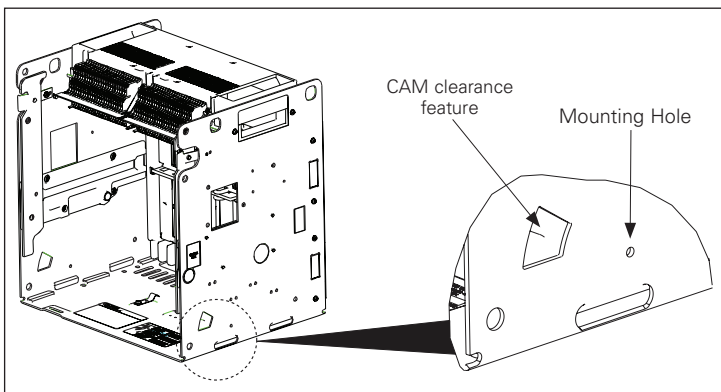

Figure 4. Step 4
Step 3: With the breaker removed from the cell, locate the interlock lever mounting hole and cam clearance feature on the outside of the cassette. See **Figure 4**.